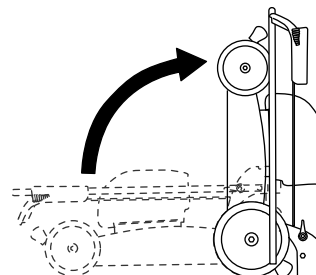

Figure 23
6. Lift the front of the machine by the handle and move it into a storage space (Figure 23).